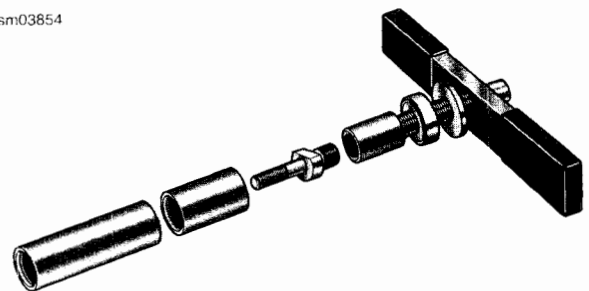

Figure 3-152. Sprocket Shaft Bearing Installer (Part No. HD-97225-55C)
4. See Figure 3-152. Obtain the SPROCKET SHAFT BEARING INSTALLER (Part No. HD-97225-55C). Assemble tool as described below.